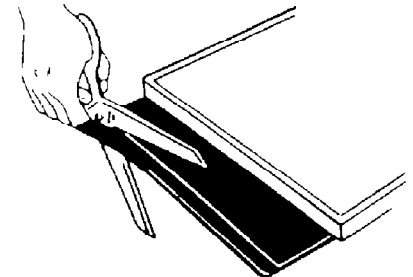

Figure 2
5. Use scissors or utility knife to cut toe plate along line. (See Figure 2.)